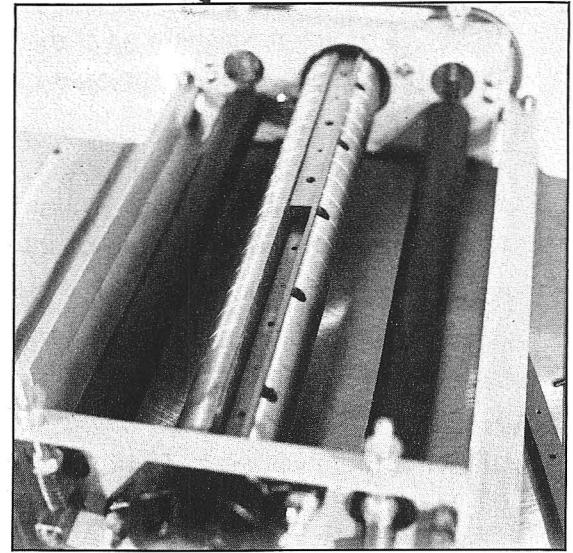

Fig. 11
2. Install the blades one at a time. Place a blade in the cutter-head slot with the bevelled edge toward the jack-screws and center the knife in the slot. Be sure the jackscrews are lowered into the cutterhead far enough to allow the knives to recede below the maximum height level. (fig. 11)